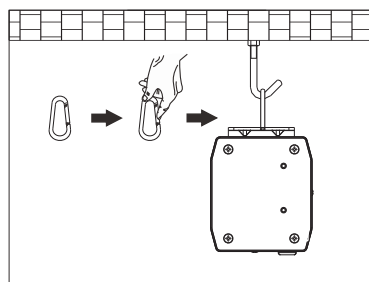

Figure 5
3) Open Accessory 5 and hang it in the middle hole site of Accessory 4 and put Accessory 5 into the hook. Then the mounting is finished. (As the above Figure 5 & Figure 6 show)